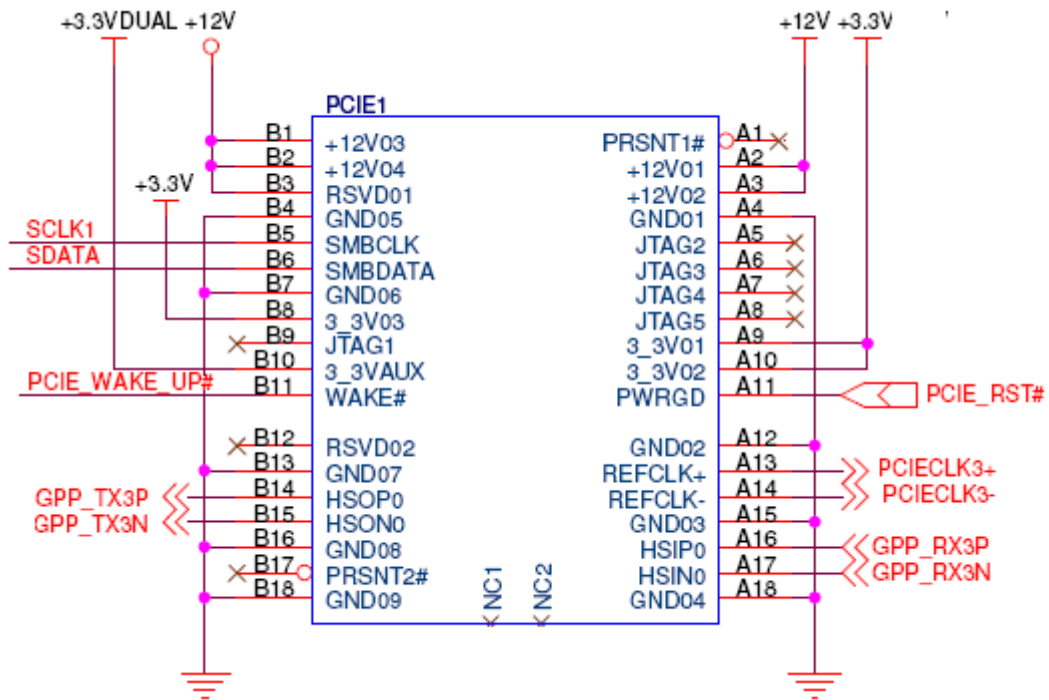

Figure 4-9: PCI Express x1 Slot Locations
- CN Location:** See Figure 4-9